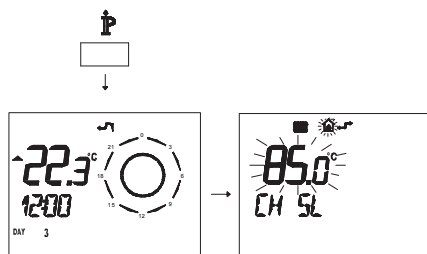

Figure 5.63
- Press button **P** for more than 3 seconds to enter **INFO** mode (Figure 5.63).